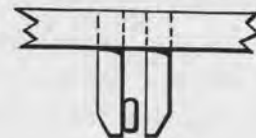

FIG. 7
4. Touching outside pin. (Fig. 7.)